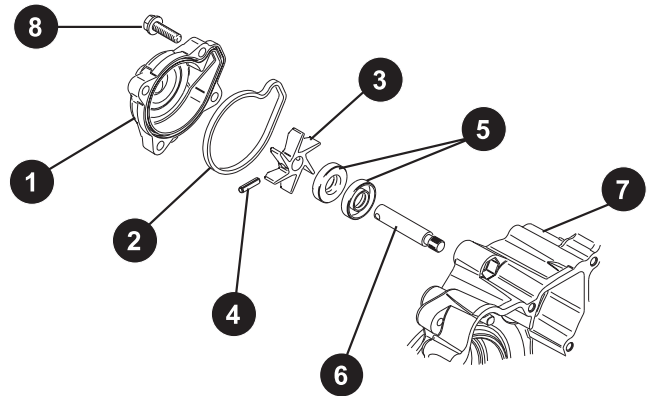

Fig. 74
- ⇒ Screw in the water pump shaft (Item 6, Fig. 74) with rotation to the left and secure with Loctite 221 (Violet).